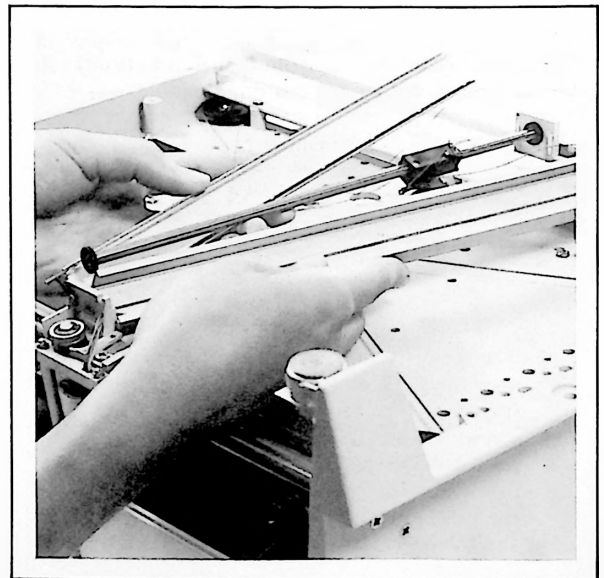

Figure 5-6. Y-Axis Balance Potentiometer Removal
- g. Y-axis balance potentiometer assembly should now be free of recorder. See Figure 5-6. Remove bottom pulley assembly and install on new potentiometer assembly, Part Number 07040-60550.